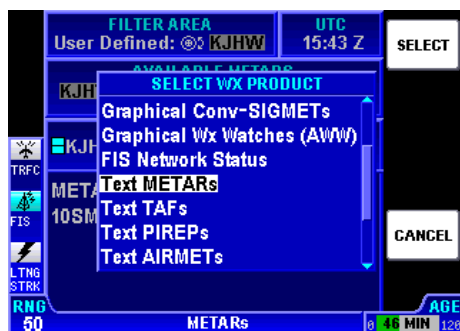

Figure 2-52
1. Press the **CHOOSE PRODUCT** Softkey to display the **SELECT WX PRODUCT** window as shown in Figure 2-52.